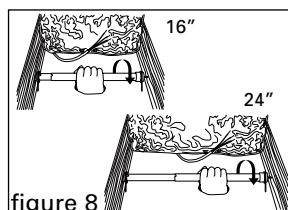

figure 8
5. Slide the outer tube (end "B") toward the opposite joist. Screw end "B" into the joist until it is hand tight (figure 8). **Do not use pliers or a wrench.**